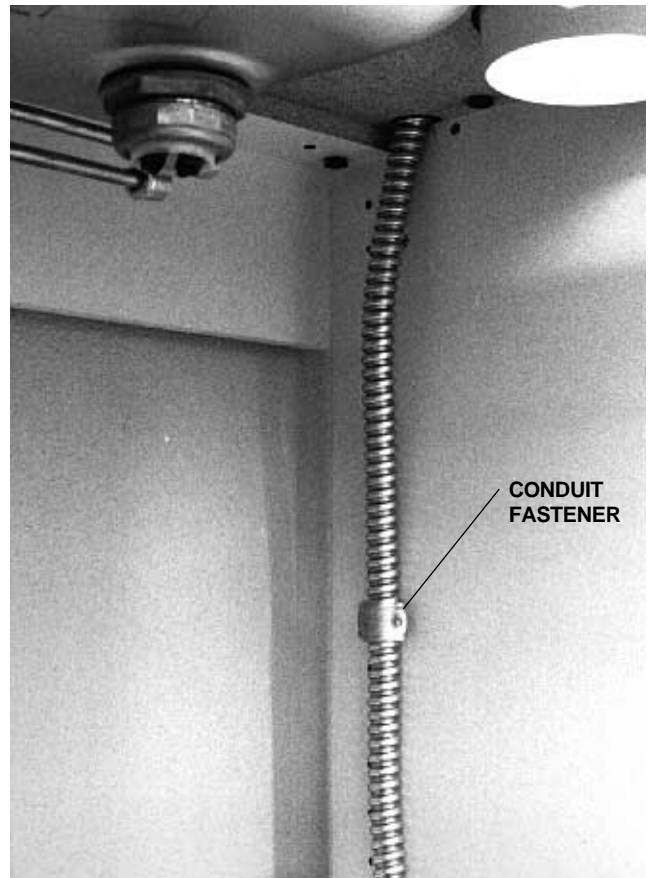

FIGURE 13
6. Loosely install the four black 1/4-20 x 1³¹/₃₂" (50 mm) long screws, from Kit No. 55-1782-00, up through the lower module and into the upper module (see Figure 13).
7. Place the electrical conduit behind the conduit fastener and tighten the retaining screw (see Figure 13).